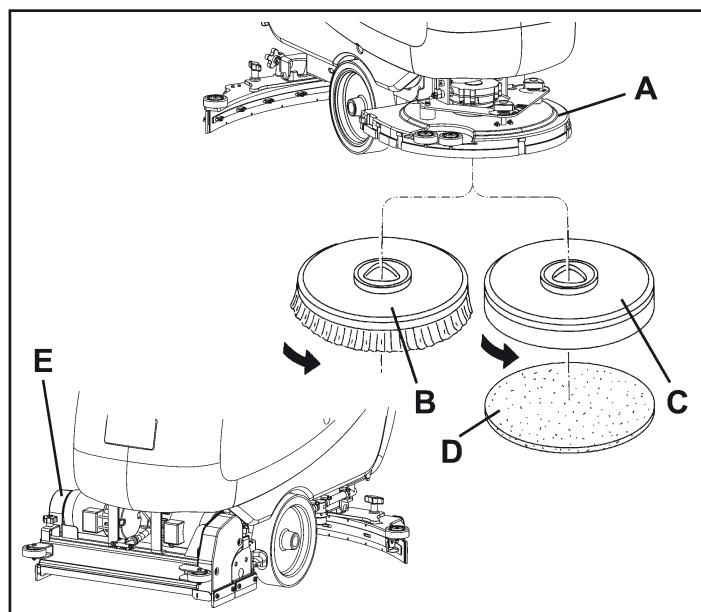
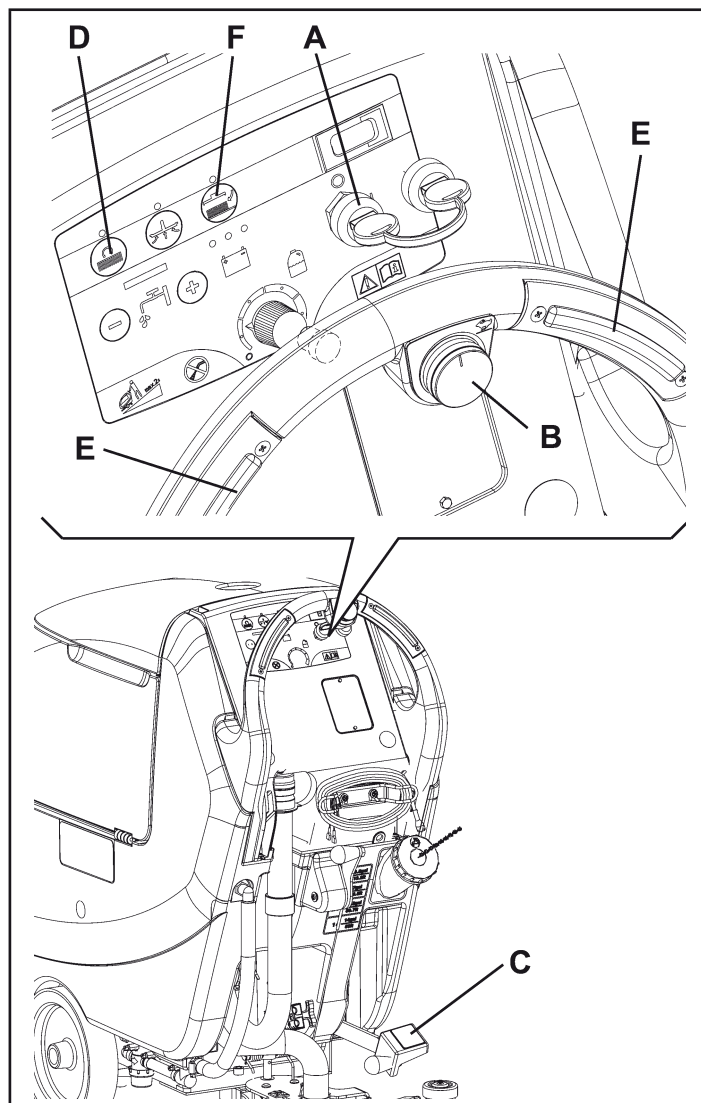

Figure 9
Figure 10
On the machine it is possible to install/remove either the brush/pad-holder deck (A, Fig. 9) or the cylindrical brush deck (E).
1. According to the kind of cleaning to be performed, the machine can be equipped either with brushes (B) or pad-holders (C) with pads (D) together with the appropriate deck.
2. Insert the ignition key (A, Fig. 10) and turn it to "I".
3. If equipped, turn the speed adjuster (B) to idle by turning it counter-clockwise.
4. Place the brushes (B, Fig. 9) or the pad-holder (C) under the 17 in / 20 in (430 mm / 530 mm) deck (A).
5. Lower the deck on the brushes/pad-holders by pressing the pedal (C, Fig. 10).
6. Turn the ignition key (A) to "I".
7. Press the brush/pad-holder switch (D).
8. Press one of the switches (E) to engage the brush/pad-holder, then release it. If necessary, repeat the procedure until the brushes/pad-holders are engaged.
*(Only for FOCUS II L17, FOCUS II L20): Turn the speed adjuster (B, Fig. 10) counter-clockwise to drive the machine at the minimum speed.*
*To engage the brush/pad-holder press the switch (E) which turns on the brush/pad-holder motor.*
9. To remove the brushes/pad-holders, the deck must be lifted by pressing the pedal (C), then press the switch (F) and wait for the brush/pad-holder to fall on the floor. Turn the ignition key (A) to "0".